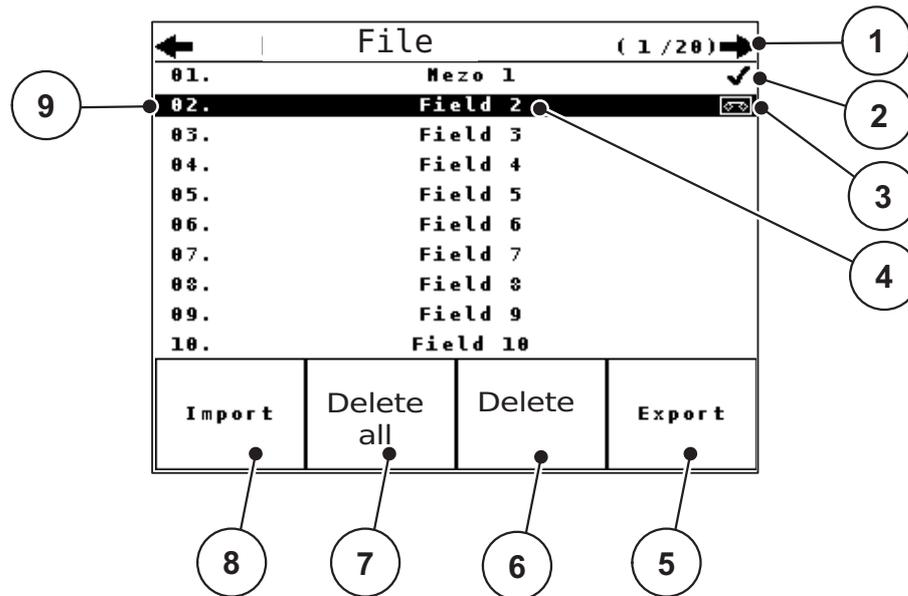

Figure 4.15: File menu
2. Press the **F1 Import** function key (see figure 4.15).
2. Press the **F4 Export** function key (see figure 4.15).